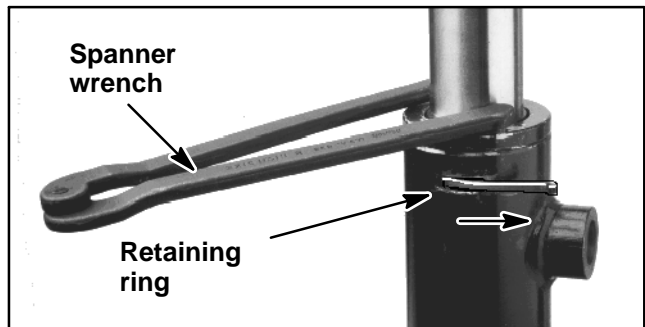

Figure 23
3. Using a spanner wrench, rotate head (item 9) clockwise until the edge of the retaining ring appears in the tube opening. Insert a screwdriver under the beveled edge of the retaining ring to start the retaining ring through the tube opening. Rotate the head counter-clockwise to remove retaining ring (item 8) as shown in Figure 23.